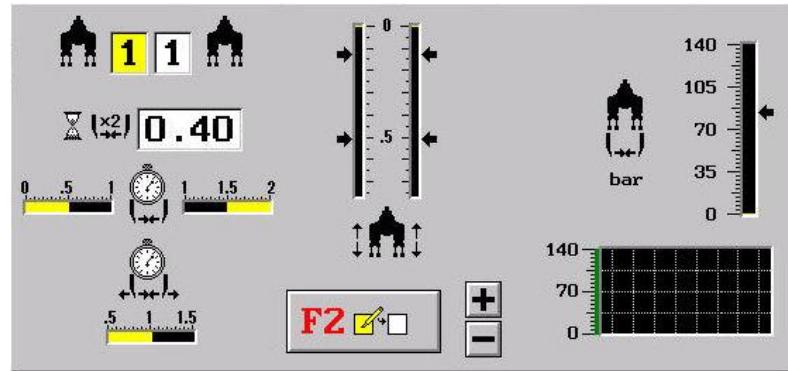

Figure 4-37A
1. Select the F5 key on the second main toolbar and then F2 to activate the Workhead configuration Dialog Box. Refer to figure 4-37A.